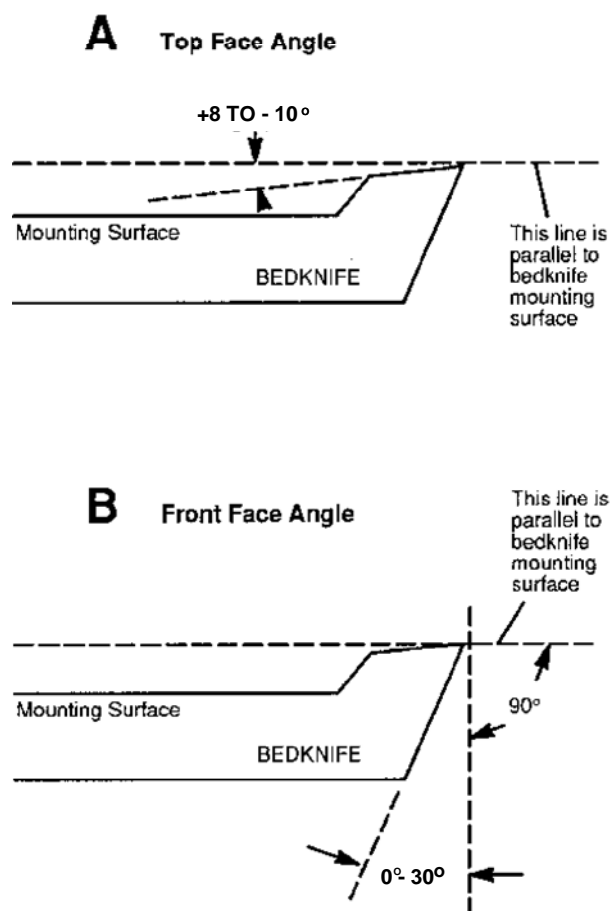

FIG. 8
- There will be a +8 to -10 degrees clearance angle ground on the top face. It will **usually** be measured relative to the bedknife mounting surface. See FIG. 8-A.
- There will be a 0-30 degrees clearance angle ground on the front face. It will **usually** be measured relative to a line **perpendicular** to the bedknife mounting surface. See FIG. 8-B.